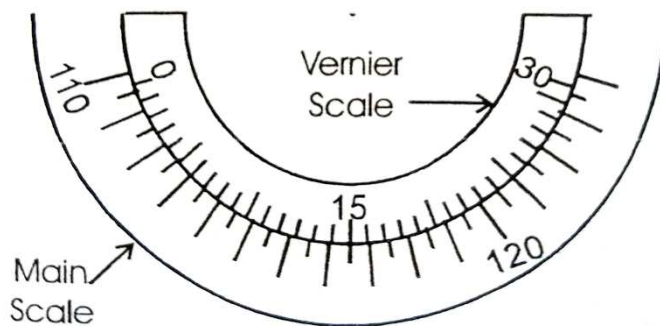

Fig. 4. Main and Vernier scale of spectrometer
- It is to be noted that the spectrometer measures angles. The circular table is divided and graduated into 360°. Each degree is further subdivided into two parts. Thus the smallest main scale division is equal to 0.5°. Let us suppose the vernier has 30 equal divisions (it may be 60 in other spectrometers) and a portion of the circular main scale and vernier scale is shown in Fig. 4. For this model the calculation is as follows-